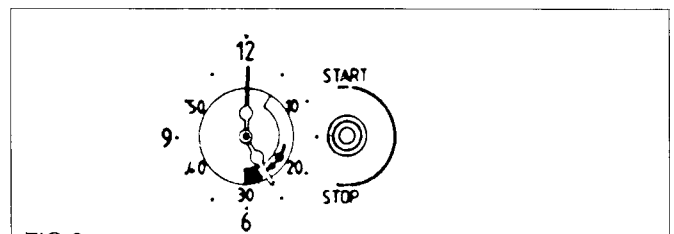

FIG.9
- i) Ensure the electricity supply is switched ON and that the correct time of day is displayed, e.g. 10.00 a.m. Fig.9.